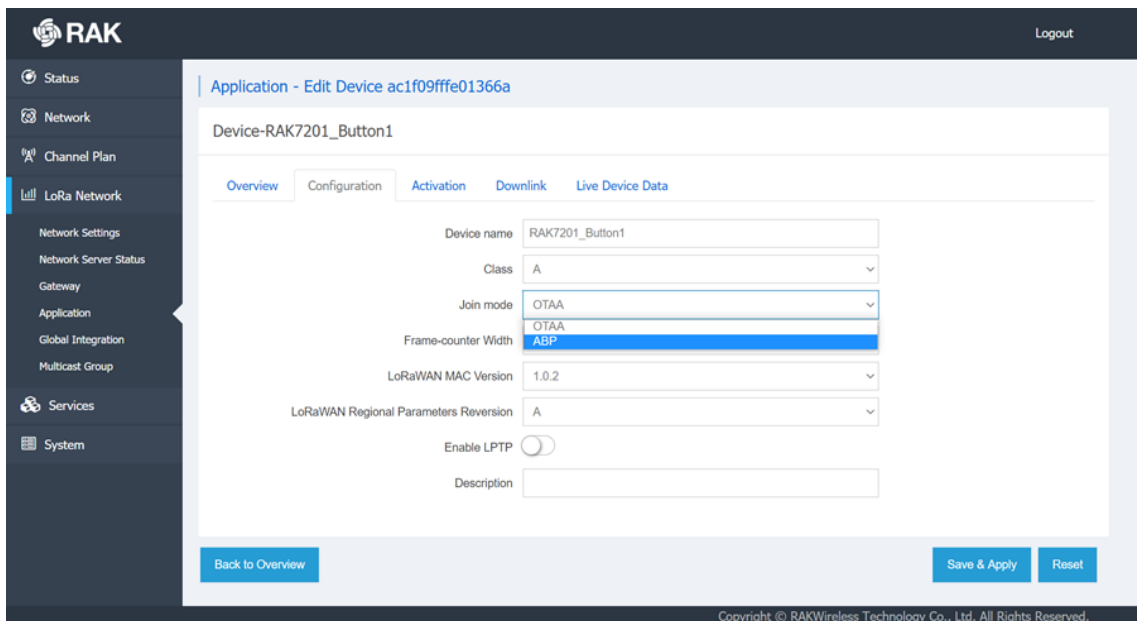

Figure 25: Changing the activation method
1. Go to the Device configuration in the Gateway, as shown in Figure 25 and select the ABP Join mode from the drop-down menu.